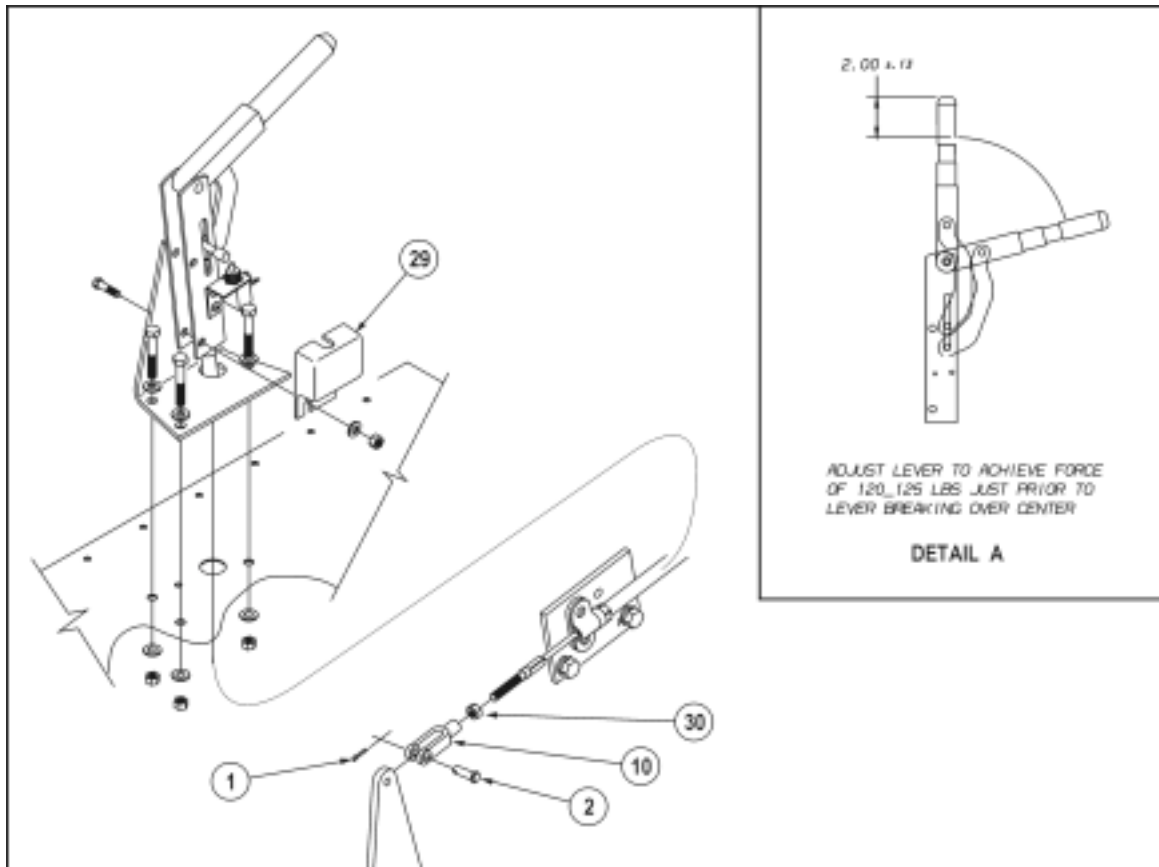

Figure 5—Lever
The driver's hand-operated park brake lever should require a force of 120 to 125 lbs to operate, just prior to the lever breaking over the center of the cam action. **Figure 5.**
1. Remove switch cover (29). **Figure 5.**